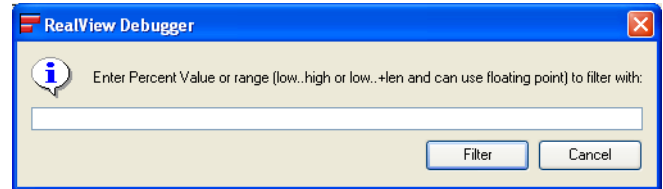

Figure 9-18 Filtering on a percent time match
2. Select **Filter** → **Filter on Percent Time...** from the Analysis window menu to open the Prompt dialog box. Figure 9-18 shows an example: